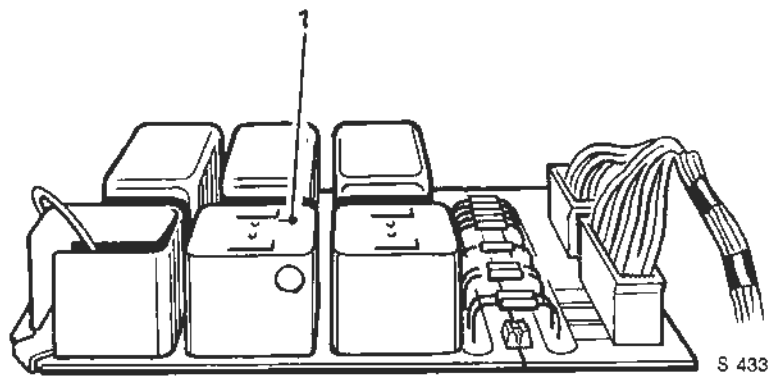

Fig. 3 Amplifier in position.
5. A hole is provided on the right-hand corner of the amplifier to gain access to the adjustment screw. The screwdriver used for adjusting the amplifier must have a blade which is not in excess of 2 mm. in width (see Fig. 3).